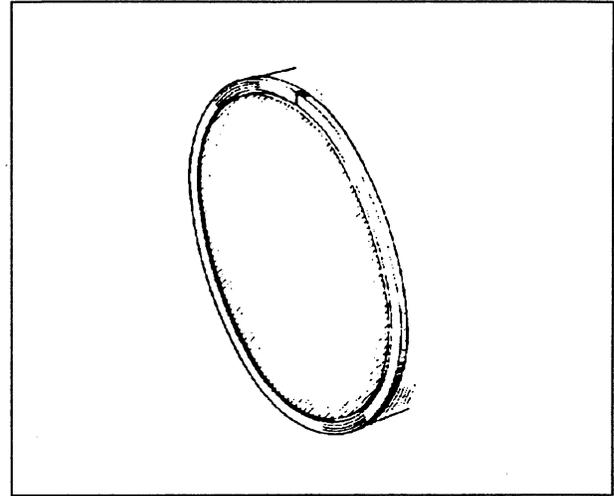

Fig. 1-5 Installation seal rings
- hold ring in this position and lift the free end until the two teeth lock correctly (Fig. 1-5).